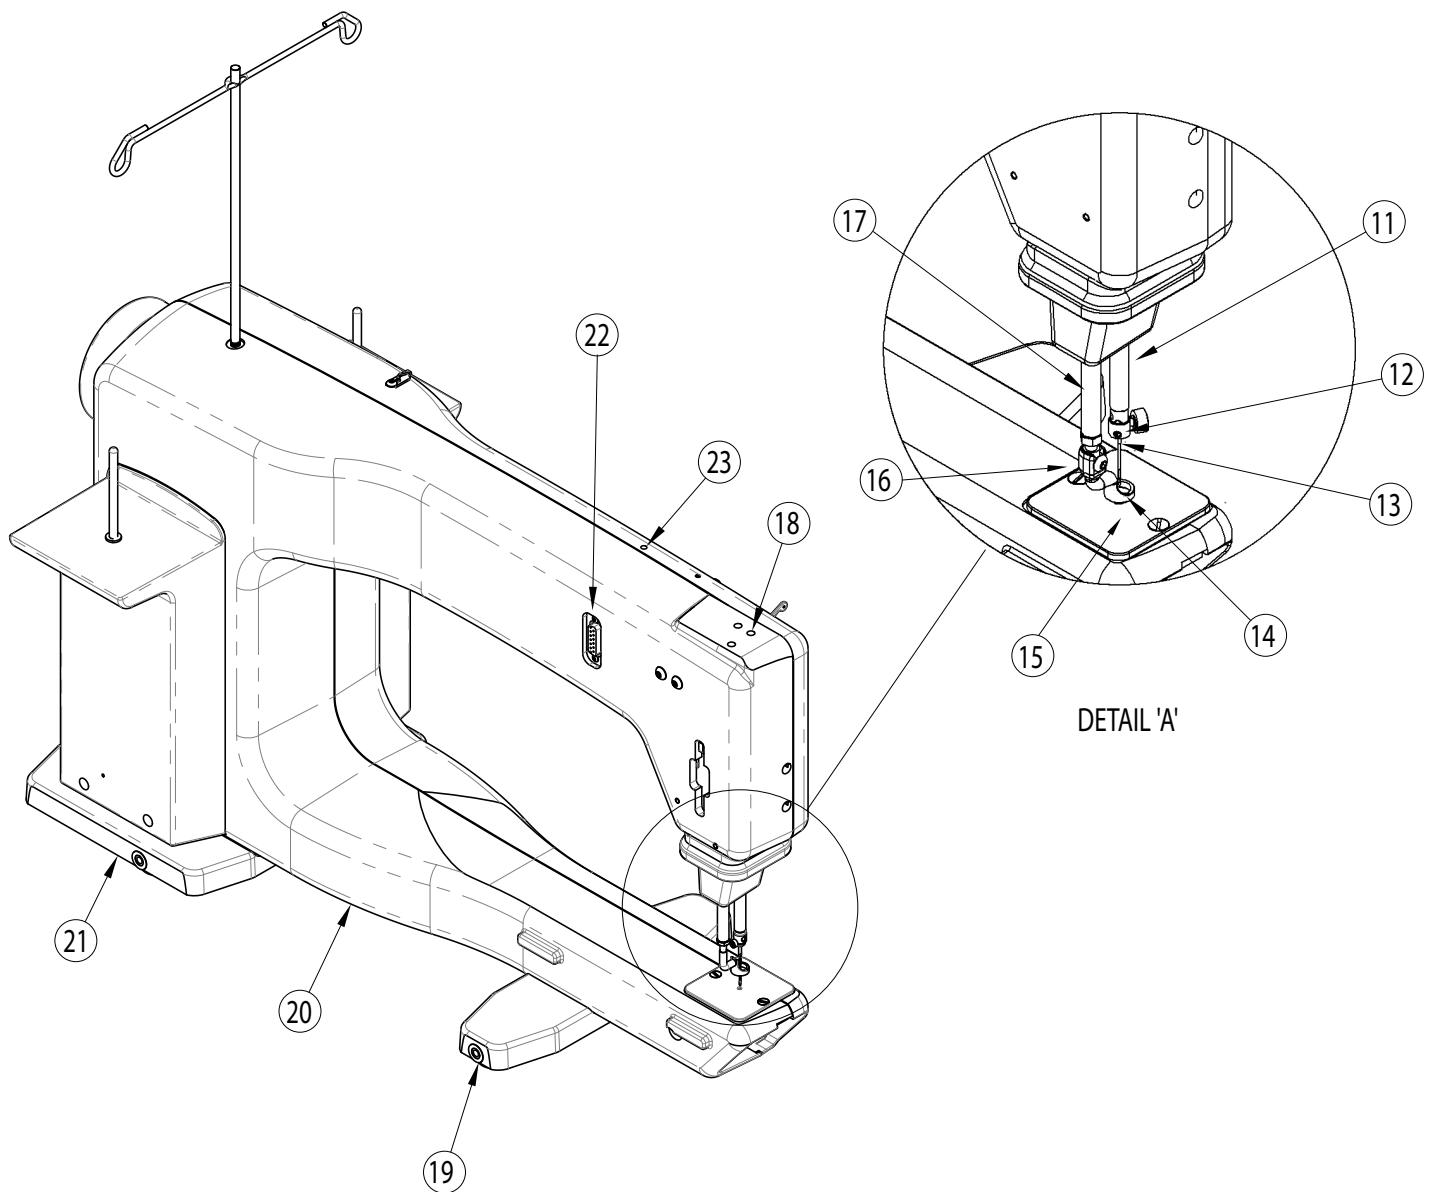

Figure 2
2. There are three holes on top of the machine head (see **page 6, Figure 2, #18**). Only the two holes that are in line with each other are used. Ignore the third hole located to the side of these two holes.
5. Plug the remaining cable end into the display connector located on the side of the machine (**page 6, Figure 2, #22**).